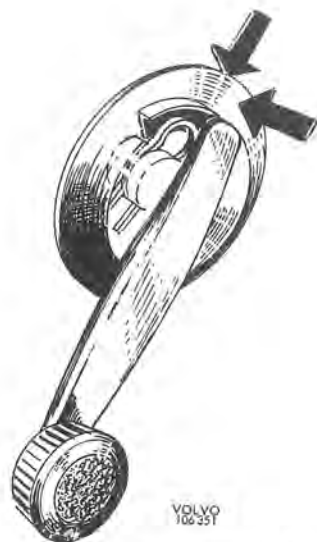

Fig. 8-12. Removing winding handle
2. Remove the window winding handle by pressing in the washer towards the door upholstery and then towards the handle in the same direction as the handles as shown in Fig. 8-12. This releases the spring clip and the winding handle can be taken off.
When fitting, make sure that the spring clip is fitted so that its open end faces towards the winding handle as shown in Fig. 8-12.